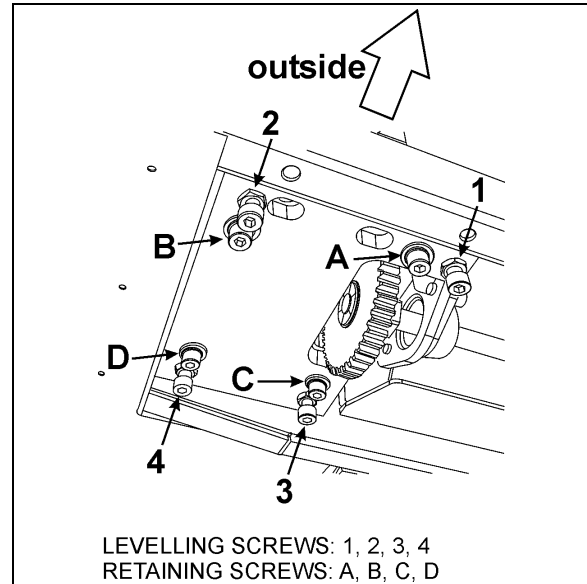

FIGURE 22 : SLIDE-OUT LEVELING
4. From the mechanism access panel, remove the retaining screws A, B, C & D (see figure 22).
Leveling of the slide-out is done by changing the linear bearing support plate height using the leveling screws 1, 2, 3, 4 (figure 22). When proper level is attained, the retaining screws A, B, C & D maintain the support plate seated on the leveling screws. Also, the retaining screws prevent the slide-out from tipping inside the vehicle when it is retracted.
The slide-out is slightly tilted. When retracting, the upper "in limit" stoppers touch first the vehicle structure, followed by the lower "in limit" stoppers. Tilt adjustment is done by changing the linear bearing support plate inclination using the leveling screws 1 & 2 as pivot and 3 to adjust the angle (figure 22).
2. From under the support plate, remove the acetal plastic block mounting screws (see the oblong holes on figure 22).